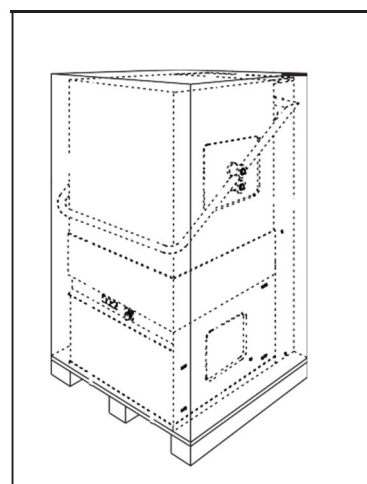

Fig. 2
1. Carefully open the packing box (fig. 2).